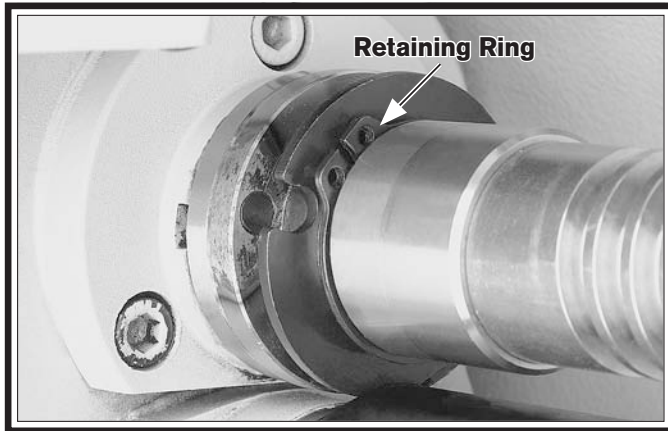

Figure 133. Shear pin access.
5. Move the retaining ring shown in **Figure 133** away from the shroud washer, then move the shroud washer away from the shear pin and against the retaining ring. This will create room for you to remove the shear pin.